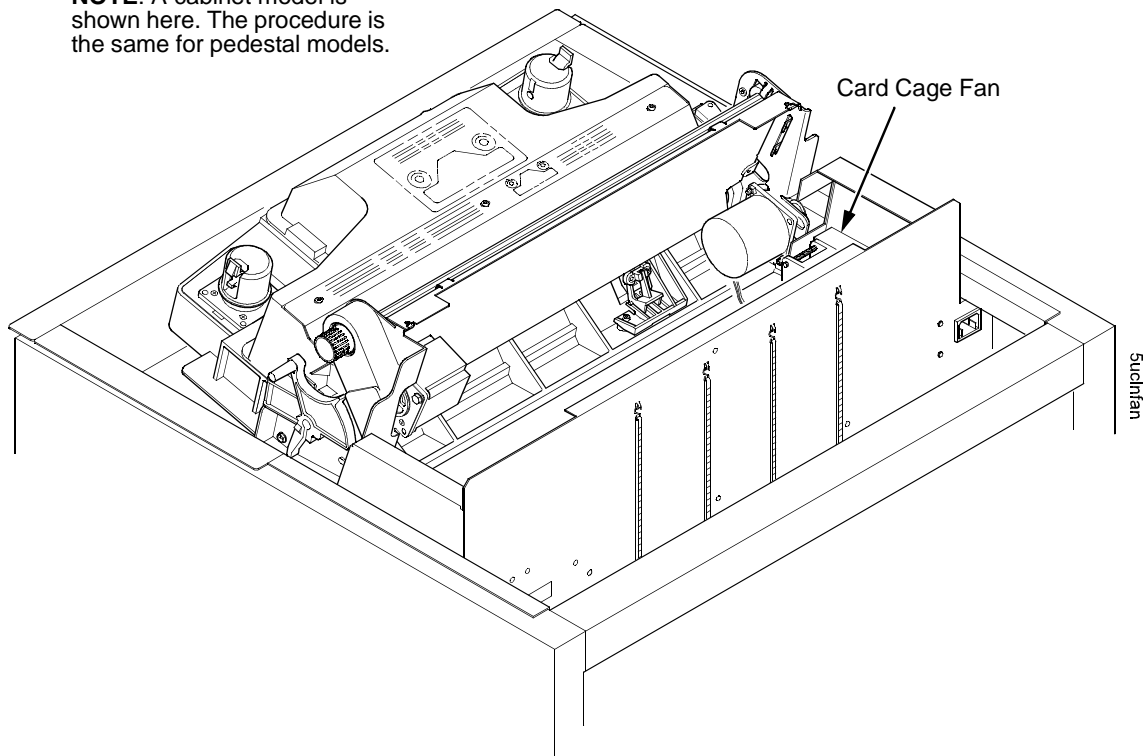

Figure 7. Cleaning the Card Cage Fan Assembly
2. Vacuum the card cage fan assembly and surrounding areas to remove paper particles, dust, and lint. (See Figure 7.)